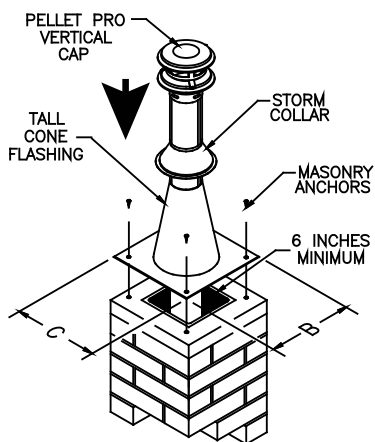

Figure 23
11. For support at the termination of the PelletVent, use a Tall Cone Flashing, and a Storm Collar. This will require 14 inches of pipe above the top of the masonry chimney. Pull the pipe up through the flashing to the desired height. Mark location of the Storm Collar. Slip the Storm Collar down over the pipe and affix it to the pipe with a 1/4"-long stainless steel sheet metal screw **(Figures 23 & 24)**. The Storm Collar will then support the entire vent system. Install the Cap. Seal the joint at the Storm Collar, and any other joints or seams which may appear suspect. **(Figure**